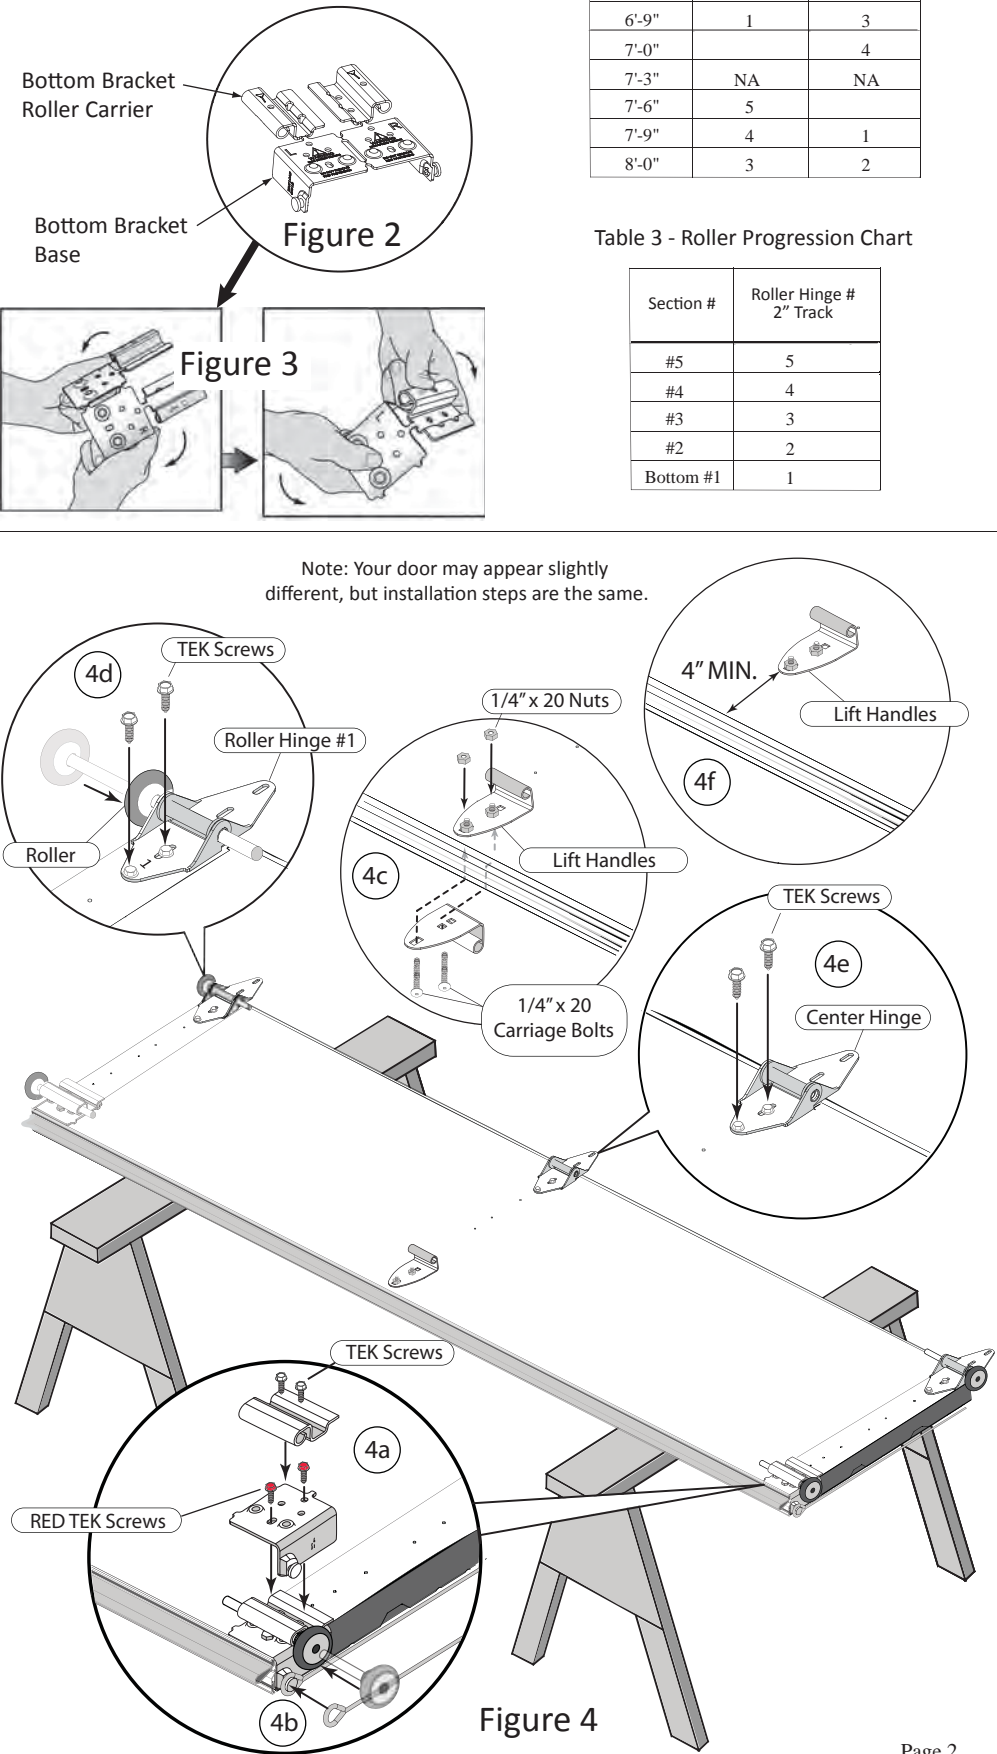

Figure 4
Locate the Safety Bottom Bracket assembly (Figure 2). Separate all four parts by snapping apart (Figure 3). Place the bottom section face down on a sturdy pair of padded saw horses (Figure 4). Attach the left Bottom Bracket Base to the bottom of the left end stile (Figure 4A). Fasten the base with (2) 1/4" x 1" RED TEK Screws. Align the Bottom Bracket Roller Carrier with the matching holes in the base and attach with (2) 1/4" x 1" TEK Screws. Insert the Roller into the Bottom Bracket Roller Carrier (Figure 4B). Repeat this procedure for the right end stile.